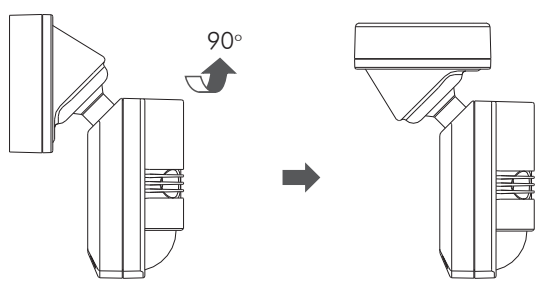

FIG.12-A
- Changing from ceiling mount to wall mount, please rotate the detector head 90° anti-clockwise before installing (See FIG.12-B).